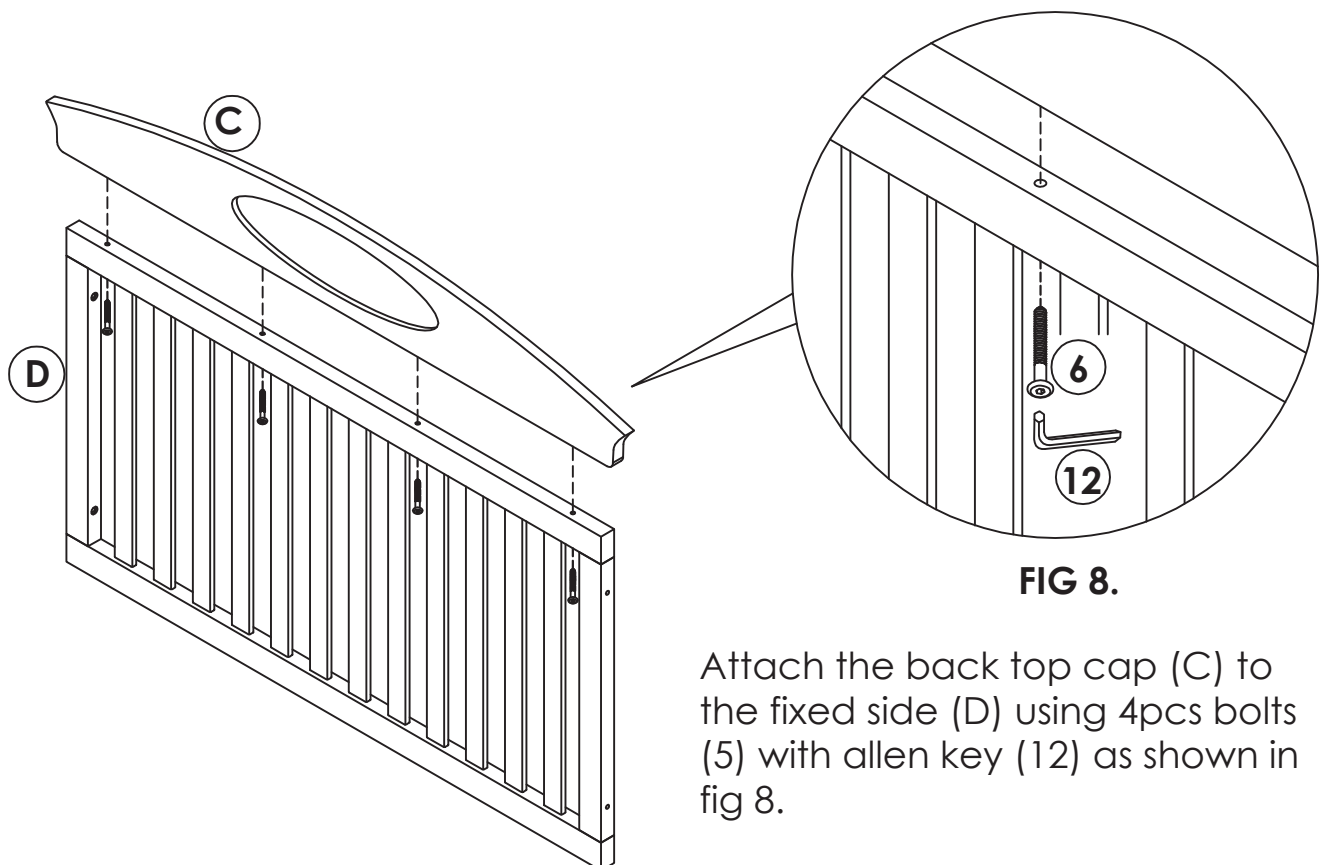

FIG 8.
Attach the back top cap (C) to the fixed side (D) using 4pcs bolts (5) with allen key (12) as shown in fig 8.